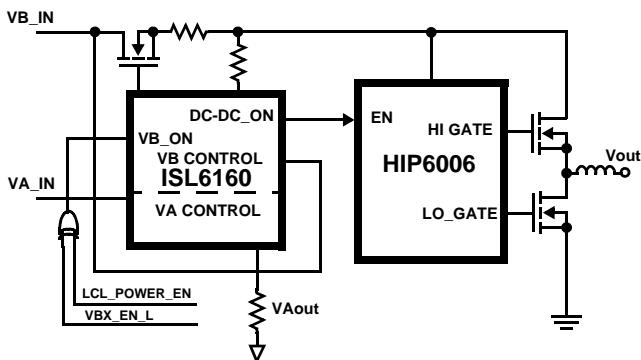
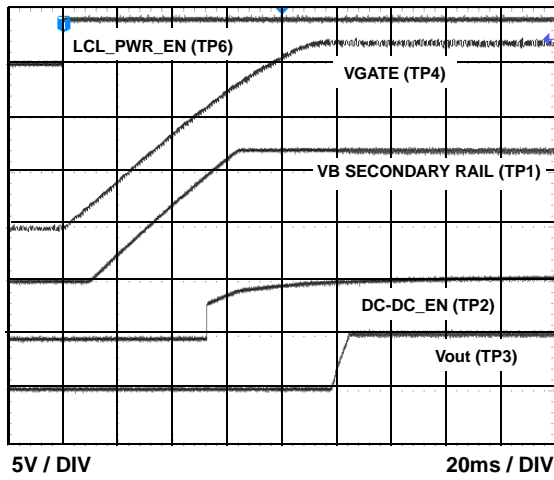

FIGURE 2. SIMPLIFIED ISL6160EVAL2 BLOCK DIAGRAM
FIGURE 19. ISL6160EVAL2 Vout TURN-ON
On the IM the ISL6160 is necessarily paired with a DC-DC converter to convert 12V to a lower usable voltage for the application circuitry. Figure 2 shows a block diagram of a complete IM power sequencer and power supply using the ISL6160 and a HIP6006, single output PWM DC-DC converter.
Available from Intersil is the ISL6160EVAL2. The ISL6160EVAL2 is a complete InfiniBand Class I (non isolated) power topology evaluation platform consisting of the ISL6160 and the HIP6006 single output PWM controller. See Figure 2 for a simplified block diagram of the ISL6160EVAL2 platform. This evaluation platform allows the Infiniband Module (IM) power supply designer to evaluate the concept of this design and apply it to a specific IM power requirement. The evaluation platform is configured for 5V V_{out} and 3A I_{out} capability and exhibits a 92% total efficiency. See Figures 19 and 20 for ISL6160EVAL2 turn-on and turn-off waveforms.